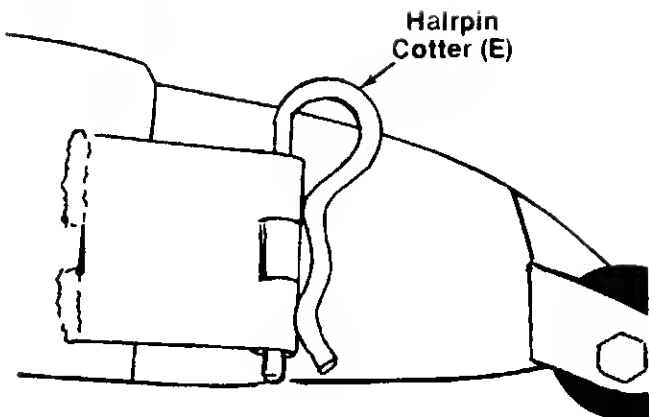

FIGURE 7.—30" Side Discharge Deck Only
Secure the **chute deflector** to the deck by placing the large **hairpin cotter (E)** in the **chute deflector bracket**, located on the front of the deck. See figure 7.